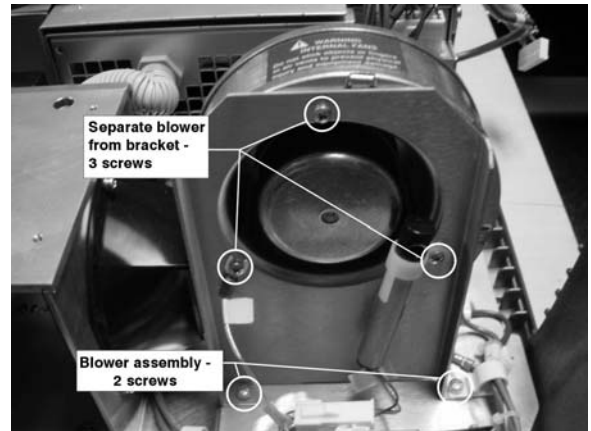

Figure 20. Removing the Lamp Blower in 500W and 1000W Models
- b) Remove the three (3) screws attaching the fan to the bracket. The one screw also secures the airflow sensor to the bracket. Remove the fan and sensor. See Figure 20.